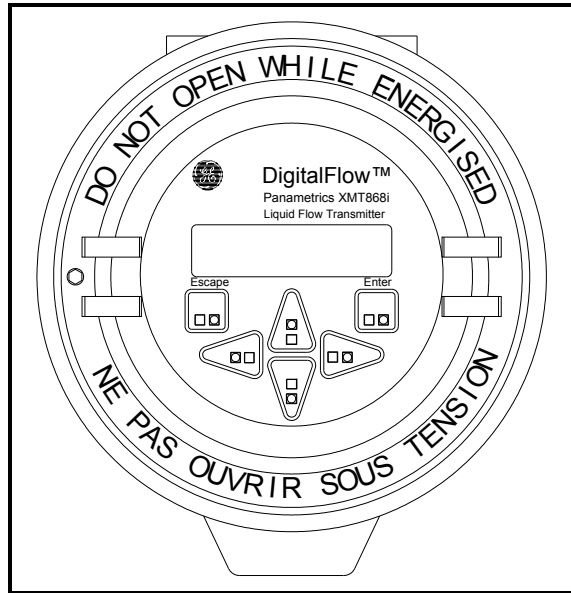

Figure 1: XMT868i Enclosure Screen
- The infrared keypad (shown in Figure 1 on page 2), which permits direct communication with the XMT868i
Along with the 2-line, 16-character LCD, the XMT868i includes a 6-key infrared keypad. The decal cutout for each key contains an infrared transmitter LED, an infrared phototransistor and a visible red LED. If an operator presses his finger or other reflective object against the glass, directly over a key, infrared light from the emitter is redirected back through the enclosure window to the sensor. Use the infrared keypad to navigate through the user program. The menu map may be followed in sequence, or the four arrow keys may be used to scroll through the prompt screens. Figure 1 shows the front of the XMT868i, with the infrared keypad.